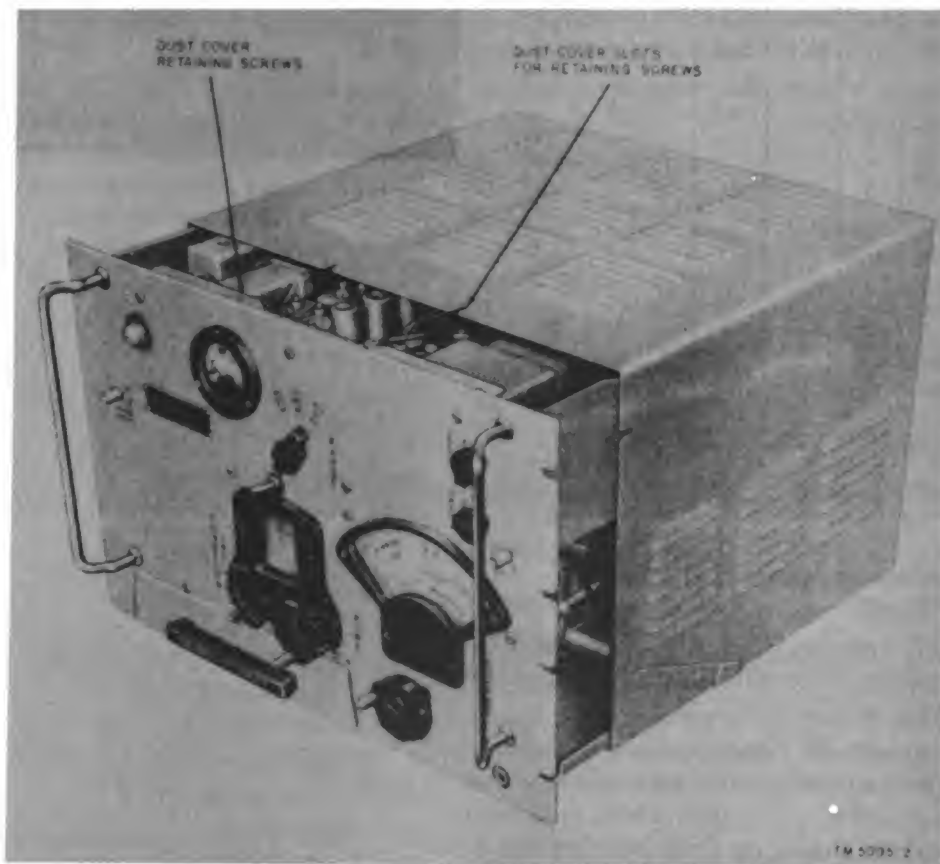

Figure 2. Frequency Meter FR-5/U, partially removed from cabinet, front view.
b. Frequency Meter FR-5/U. Frequency Meter FR-5/U consists of a panel-chassis assembly and a metal dust cover. The dust cover is secured to the rear of the chassis by Dzus fasteners and to the panel by retaining screws (fig. 2). The chassis main frame is divided into two decks that hold the subassemblies. All operating controls, indicators, and the input and output jacks are mounted on the front panel. A glass window on the panel magnifies the frequency markings on the film. Frequency